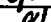

**FIGURE 2: TRIMMING FOAM CORE
- 2) Trim foam core of door 11.0" (280mm) above the aft door latch as shown in Figure 2 of this service instruction. Bevel foam at 45°.
- 3) Apply (2) layers of 9 oz cloth covering the trimmed area, as shown in Section A-A of this service instruction. Acceptable materials for the composite modification are specified in section 7.0 of QSI 037. Cure at room temperature for 24 hours.